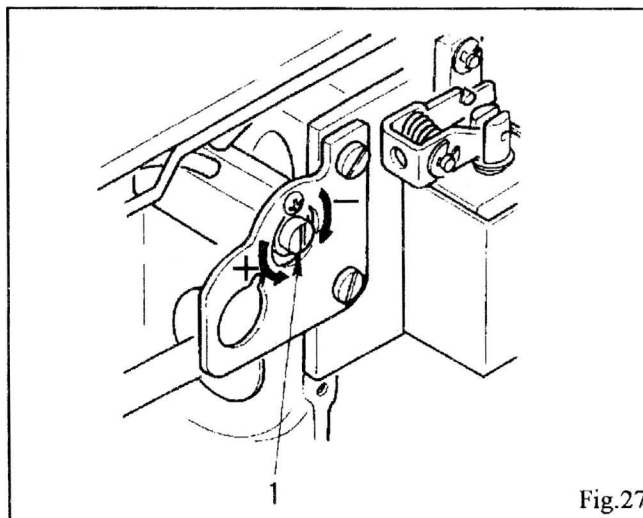

Fig.27
To regulate the amount of oil flow to sewing hook, tip machine back on its hinges and turn oil flow regulating valve (1) as shown in Fig. 27.